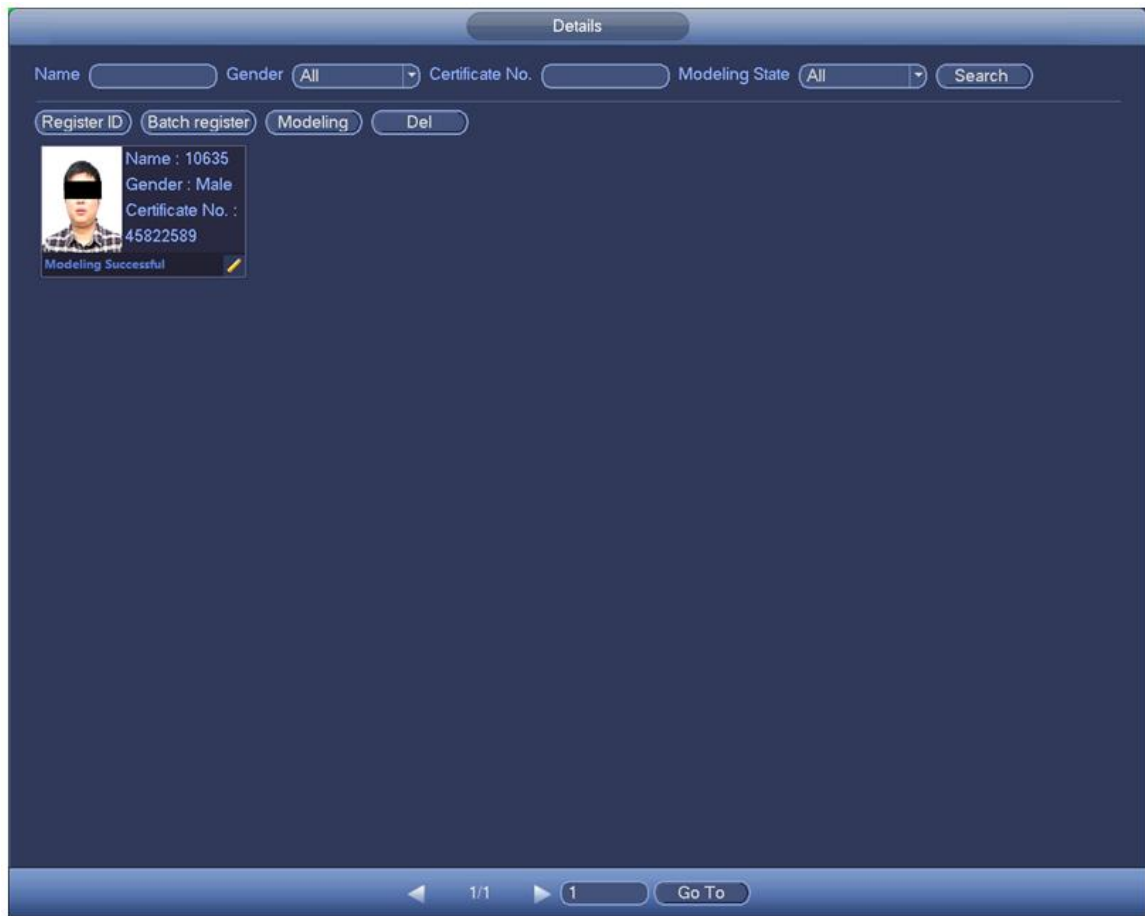

Figure 4-161
- The system displays “Modeling Successful”. See Figure 4-161.